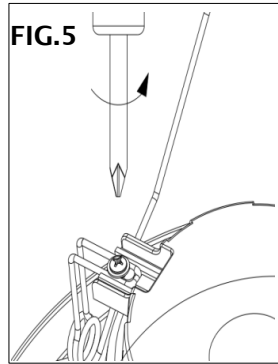

FIG.5
2. Remove the springs to 5 inch installation hole, then screw on (FIG.5&6)